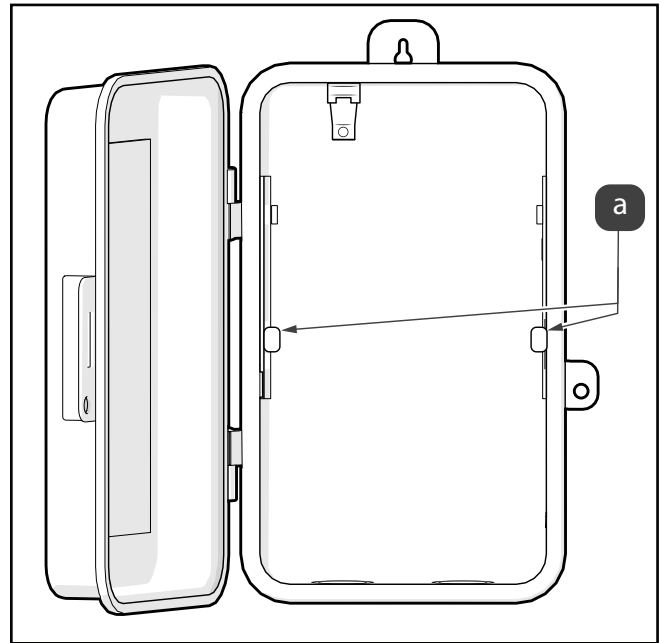

Figure 10. Intermatic® Retaining Ears Location
4. Lower AquaLink TCX chassis into empty Intermatic® box, slide under retainer ears, see Figure 10 (a)